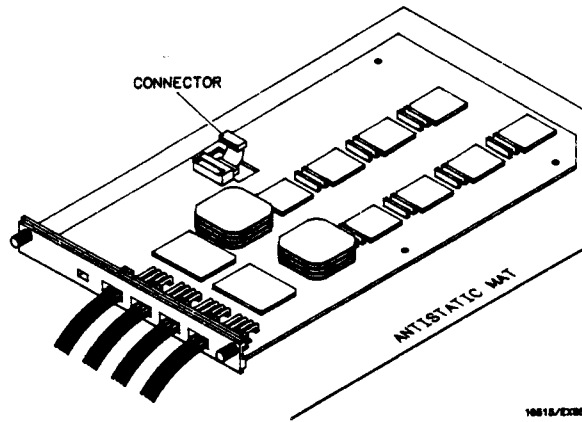

Figure A-5. Card On Mat
5. Lay the timing analyzer master card on an antistatic mat. See figure A-5.